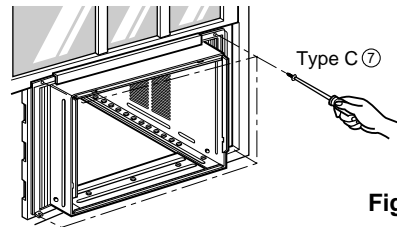

Fig. 6
- 9 Attach each Frame Curtain 1 the window sash using screws 7 (Type C). (See Fig. 6)